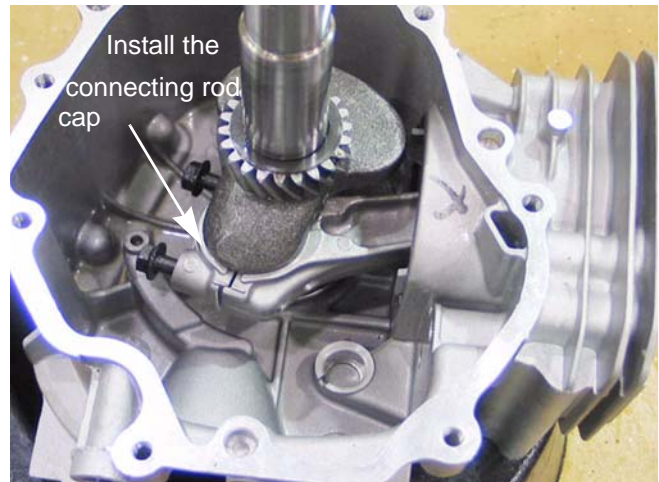

Figure 10.25
- 4f. Install the connecting rod cap. Apply a small amount of releasable thread locking compound such as Loctite® 242 (blue) to the connecting rod bolts and tighten the cap bolts to a torque of 102 - 111 in-lbs (11.5 - 12.5 Nm). See Figure 10.25.